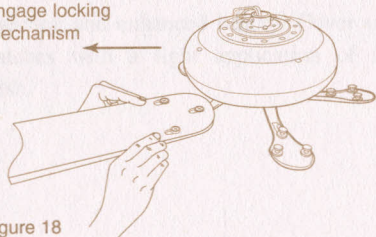

Figure 18
3. While still pressing the blade down with both hands, firmly slide the blade away from the motor housing, until the blade engages in the locking mechanism. Make sure this springs upward and butts against the edge of the blade, indicating a secure connection. (Figure 18)